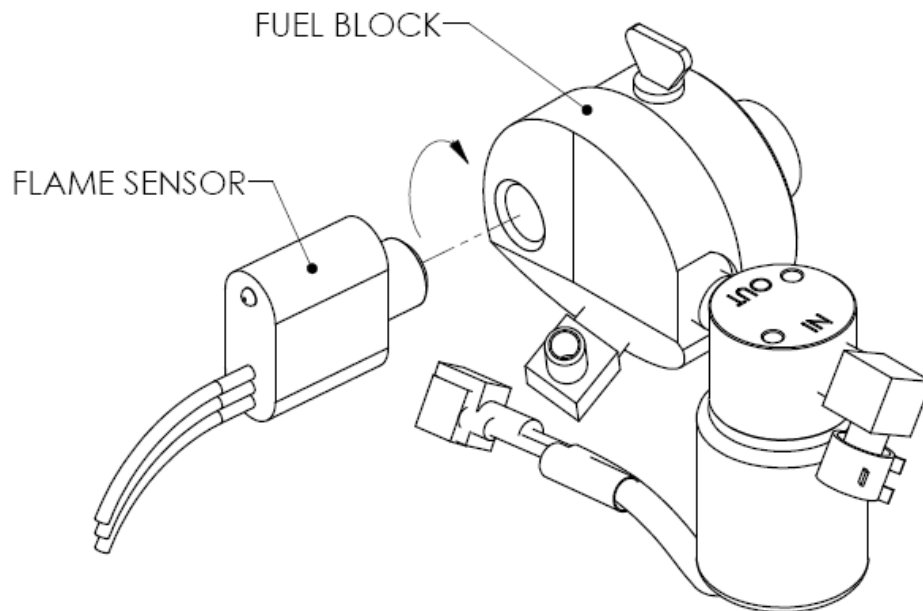

Figure 20: Flame sensor attachment
5. Unscrew the fuel nozzle (counter-clockwise) using a 5/8ö wrench (see Figure 20).